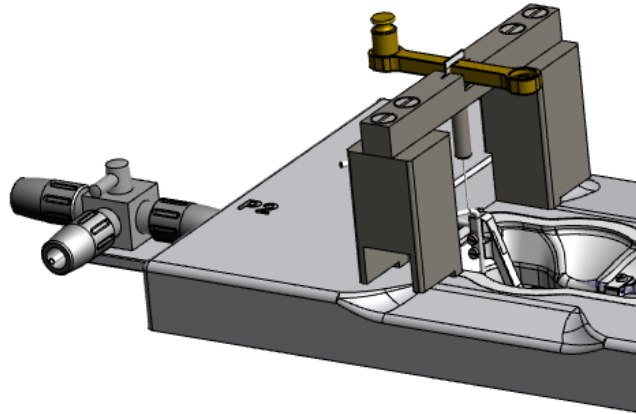

Figure 3.2 Place the 2 gram weight in the pan closest to the transducer (over the transducer) to simulate the stretch created by a mounted vessel preparation.
Step 5 - At this step, carefully place the 2 gram weight in the pan closest to the transducer (over the transducer) to simulate the stretch created by the contraction of a mounted vessel preparation (figure 3.2).